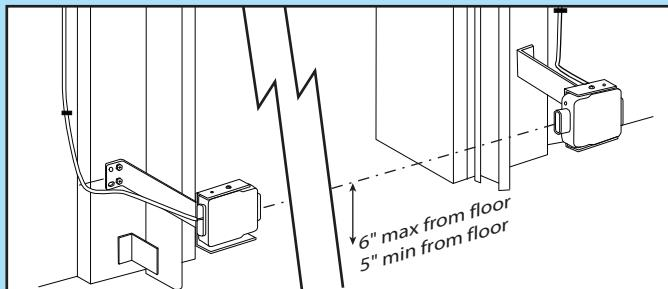

FIG. 5-4 Check Safe-T-Beam® alignment.
Check Safe-T-Beam® alignment (Fig. 5-4).
- Ensure that tops of lenses are between 5" - 6" above the floor (Fig. 5-4). The brackets are flexible, and can be adjusted slightly if needed.